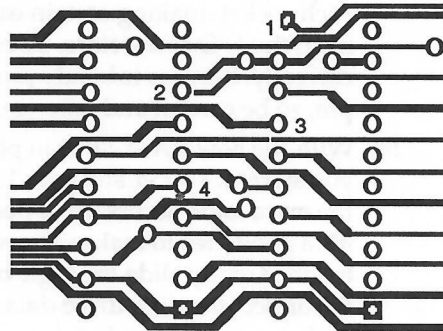

Figure 10-6 Typical soldering errors:
6. Once all 256 holes have been cleaned, examine the area around each hole with a magnifying glass. Check for pads lifted from the PC (printed-circuit) board, breaks between the pads and traces, cut traces near a pad, and solder bridges between the pads and traces. These errors are illustrated in Figure 10-6 courtesy of SCI.